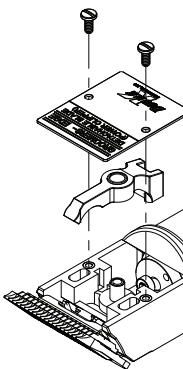

fig. 2
At least once a month remove cover plate and blade lever so that all collected hair can be brushed out. (fig. 2) Be careful not to displace the felt pads that are located next to the lever. Lubricate the hole and cut out notch in the back of the lever with all-purpose grease. While the blade lever is removed, place a dab of grease on the front of the lever bearing which is located on the front of the flywheel. (fig.3) Re-install the blade lever being sure the lever bearing on the flywheel fits into the cutout notch in the rear of the lever. Clean and replace the cover plate. Tighten screws snugly. Spread thin film of grease on top of lever where blade is contacted.
2. Check metal hinge stabilizers on the blade. With the blade removed from the clipper handpiece, hold the blade in hand with the moving portion of the blade (the cutter) facing you. Observe the metal spring clip which holds the cutter to the stationary portion of the blade (the comb). The spring clip has two metal protrusions attached to either side of the cut-out mid-section (fig. 2) which stabilizes the blade to the latch and hinge assembly during use. If these protrusions are too far apart, the blade is not stable during clipping and therefore will chatter during use.